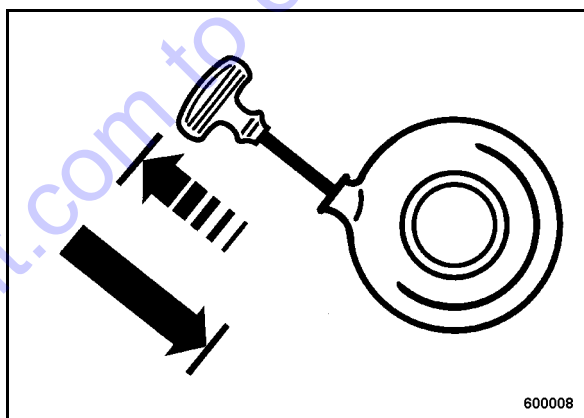

Fig. 22
- Slightly pull the starter handle (Fig. 22), until resistance can be felt (compression pressure), but do not pull out completely.